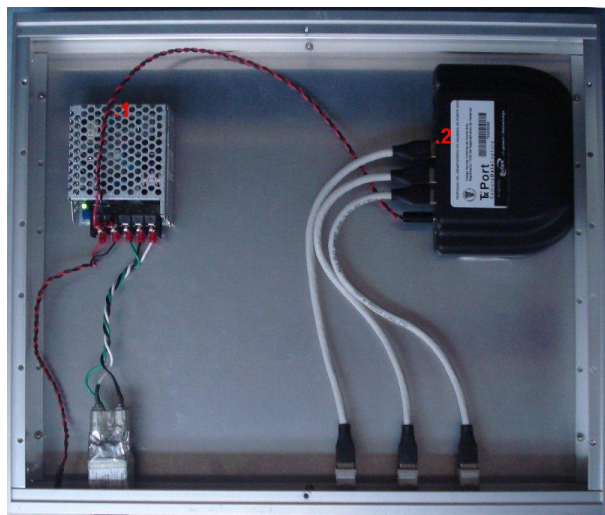
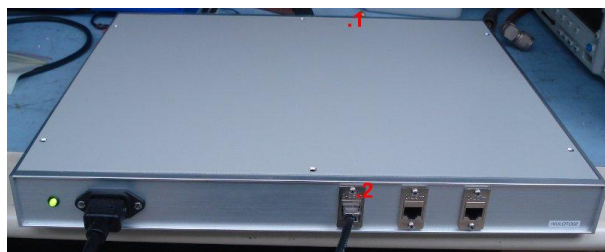

Figure 1: Shielding Open.
Figure 2: Shielding Closed.
This document shows RFI test (electric field only) description and results for the two (2) IVULOTO Softek TxPort units for the Visitor Center. Figure 1 shows the device with power supply in the RFI/EMI shielded enclosure. Figure 2 shows the box closed. The numbers indicate the test points, where the electric field probe was located. Test requested by Jorge Rodriguez.
- 1U rack mount shielded enclosure with Softek TxPort, power supply, AC filter and shielded Ethernet cables. Tested with the top cover open, and closed. Test points indicated in Figs. 1 and 2. Two Units tested.
- Thirty (30) 100MHz bandwidth scans (12.207kHz per channel), from 0 to 3000MHz, electric and magnetic field.
- Twenty (20) seconds “integration” time.